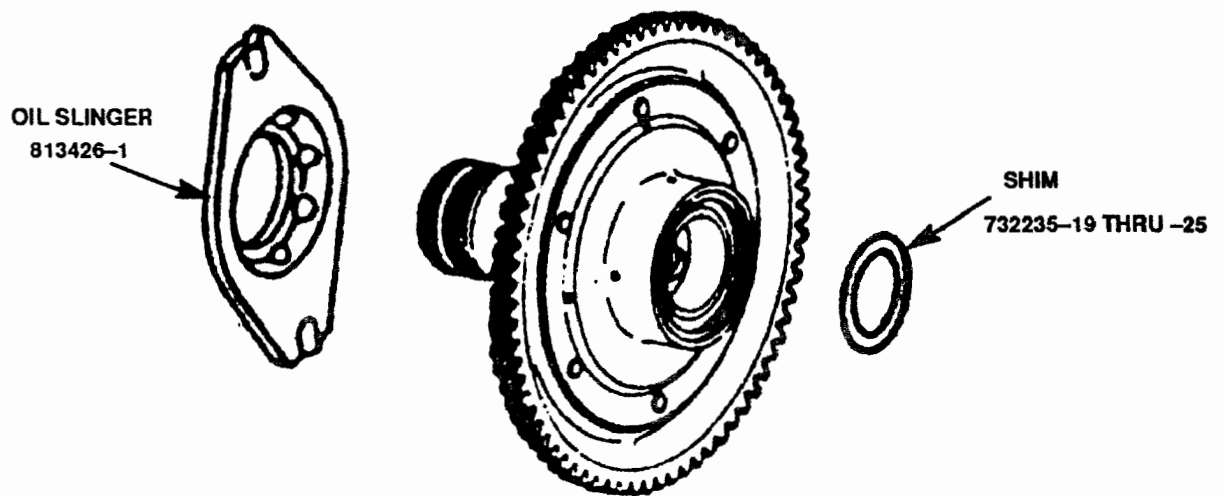

Figure 9. Clutch with Shims and Oil Slinger
- (i) Install the oil slinger, part number 813426-1, on the output shaft. Refer to Figure 9.